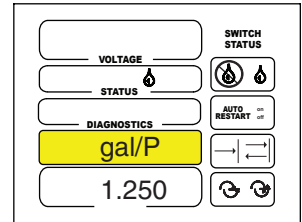

Figure 35-2
1. gal/P (or ltr/P) should be flashing. See figures 35-2.